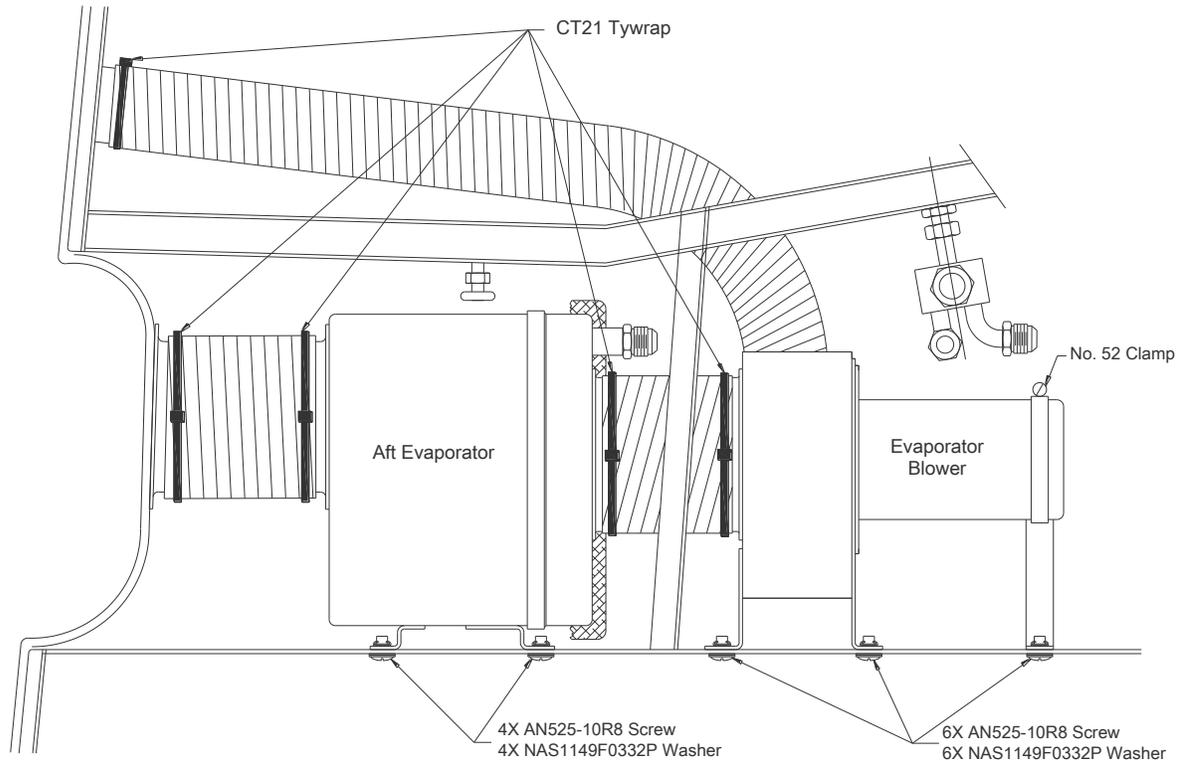

Figure 14: Evaporator Blower - VIEW E-E
9. REMOVE AND REPLACE AFT EVAPORATOR (Figure 14)
10. REMOVE AND REPLACE AFT EVAPORATOR BLOWER (Figure 14)